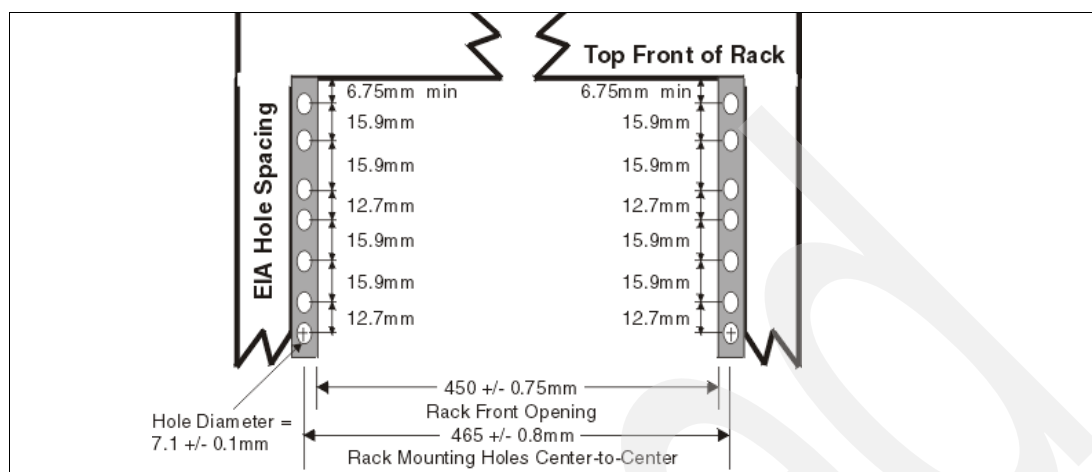
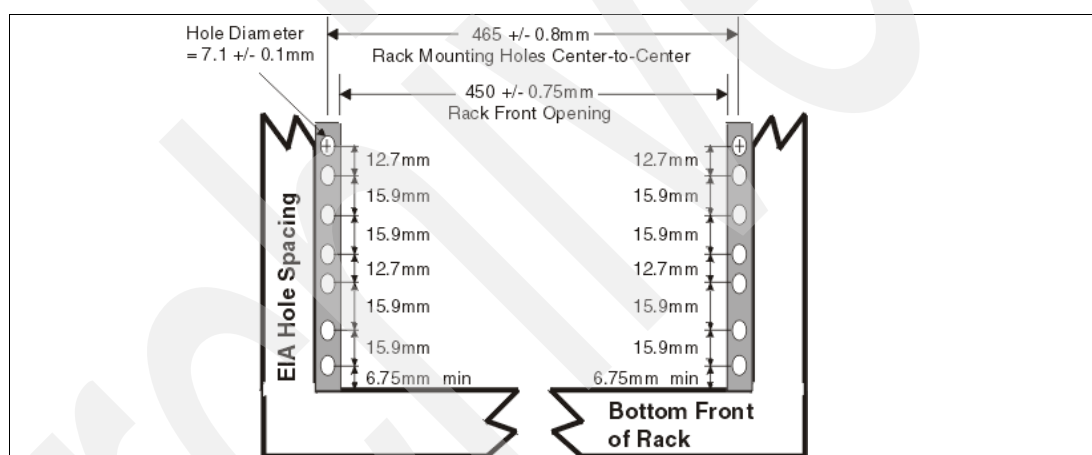

Figure 1-4 Rack specification dimensions, top front view
Figure 1-5 Rack specification dimensions, bottom front view
0.1 mm (0.28 inches + 0.004 inches) in diameter. Figure 1-4 shows the top front specification dimensions and Figure 1-5 show the bottom front specification dimensions.